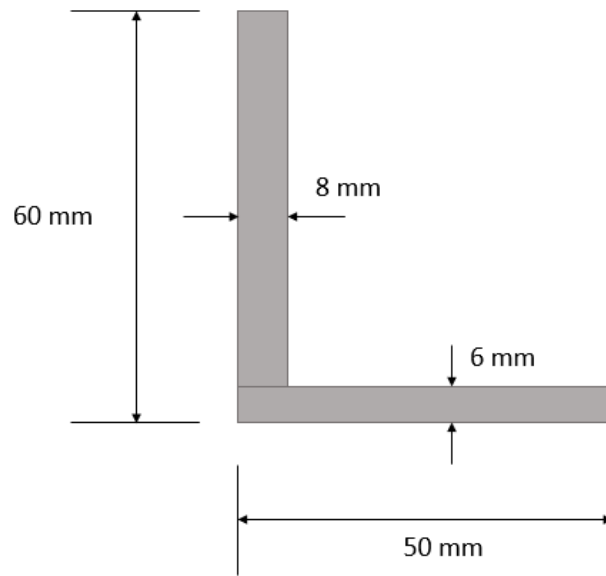

Figure 2- cross section of L angle section
- Q2)** Figure 2 shows the cross section of a design for a right-angle mounting plate. The plate will act as a beam and will exhibit unsymmetrical bending when a load is applied.
- a) Find the position of the centroid for the section in Figure 2. **(8 marks)**